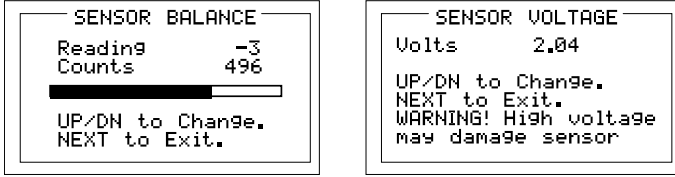

Figure 7-2: Catalytic Bead BALANCE & SENSOR VOLTS Adjust Menus
**Set Balance** allows balancing of the catalytic bead sensor and must only be performed with ZERO gas on the sensor (Figure 7-2). Balance is similar to a very coarse ZERO calibration and does not need to be precise since subsequent calibrations will correct for small errors. ZERO gas applied to the sensor should provide a Reading of -3 to +3 on the SENSOR BALANCE menu.